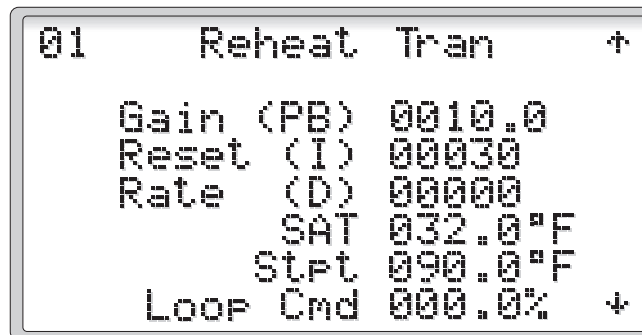
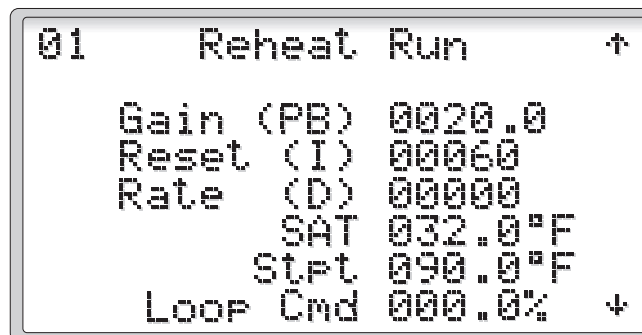

Figure 54
Figure 55
2.3.3.2.1 Reheat Settings (Figures 54 and 55)
Selecting the Reheat Settings from the Parameter Settings Menu displays the Reheat Transition PID parameters shown in Figure 54. The Transition parameters are used by the control system every time the transition is made from Lights On to Lights Off or Lights Off to Lights On. After the transition time, typically 10 minutes, the Reheat Run PID parameters are used. Press the **DOWN** key for the Run parameters, see Figure 55.